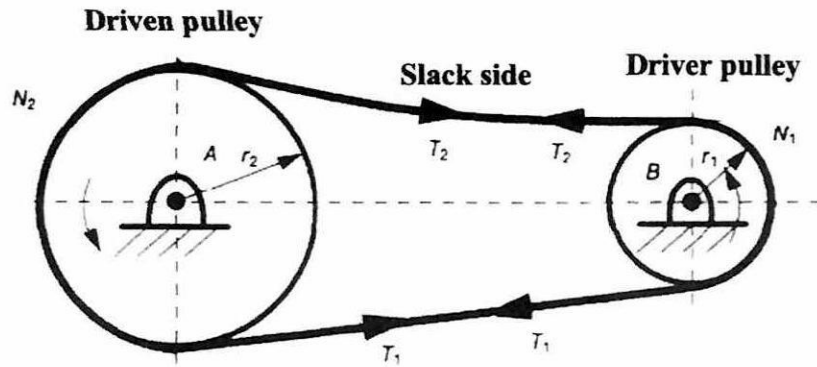

Figure Q4(b)
- (b) The slack side of the belt drive is preferable to place on the top side as shown in **Figure Q4(b)**. Discuss the possible reason behind this.